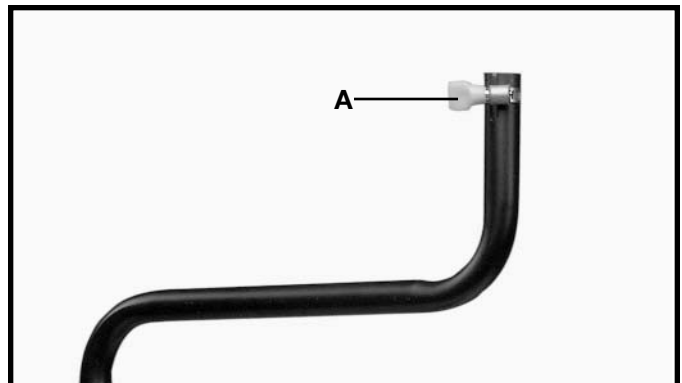

Fig. 9
3. Place a tube clamp (A) onto the lower tube support as shown in Fig. 9.